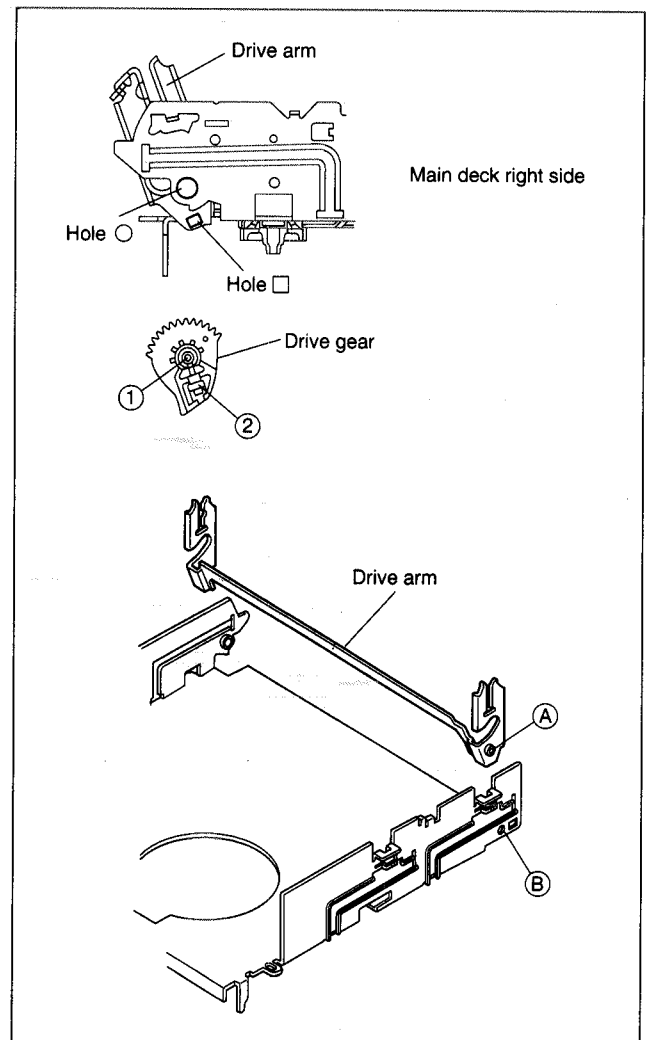

Fig. 2-2-7
- (1) Insert the section ① of the drive arm into the section ② of the main deck.
- (2) Insert the section ① of the drive gear into the round hole, and the section ② into the square hole on the drive arm. (See Fig.2-2-7.)